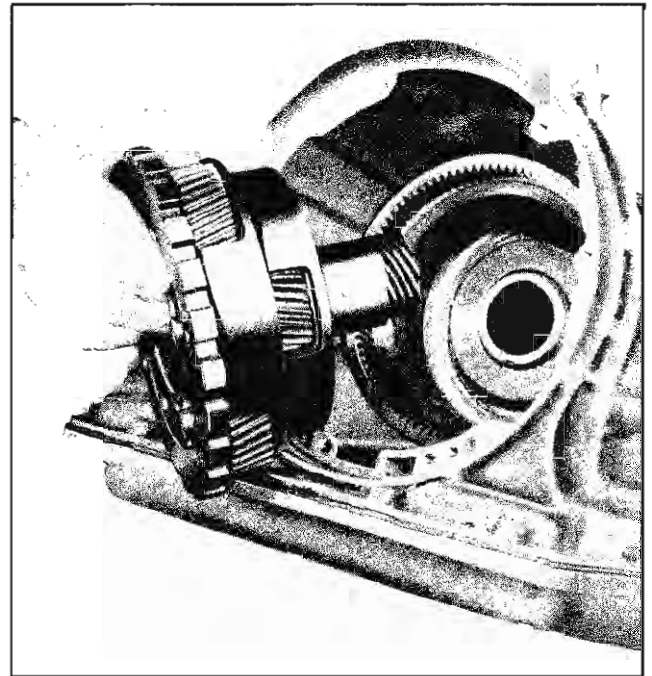

Fig. 7A-33 Removing Planet Carrier Assembly
15. Remove planet carrier assembly, fiber washer and cupped race from ring gear (Fig. 7A-33).